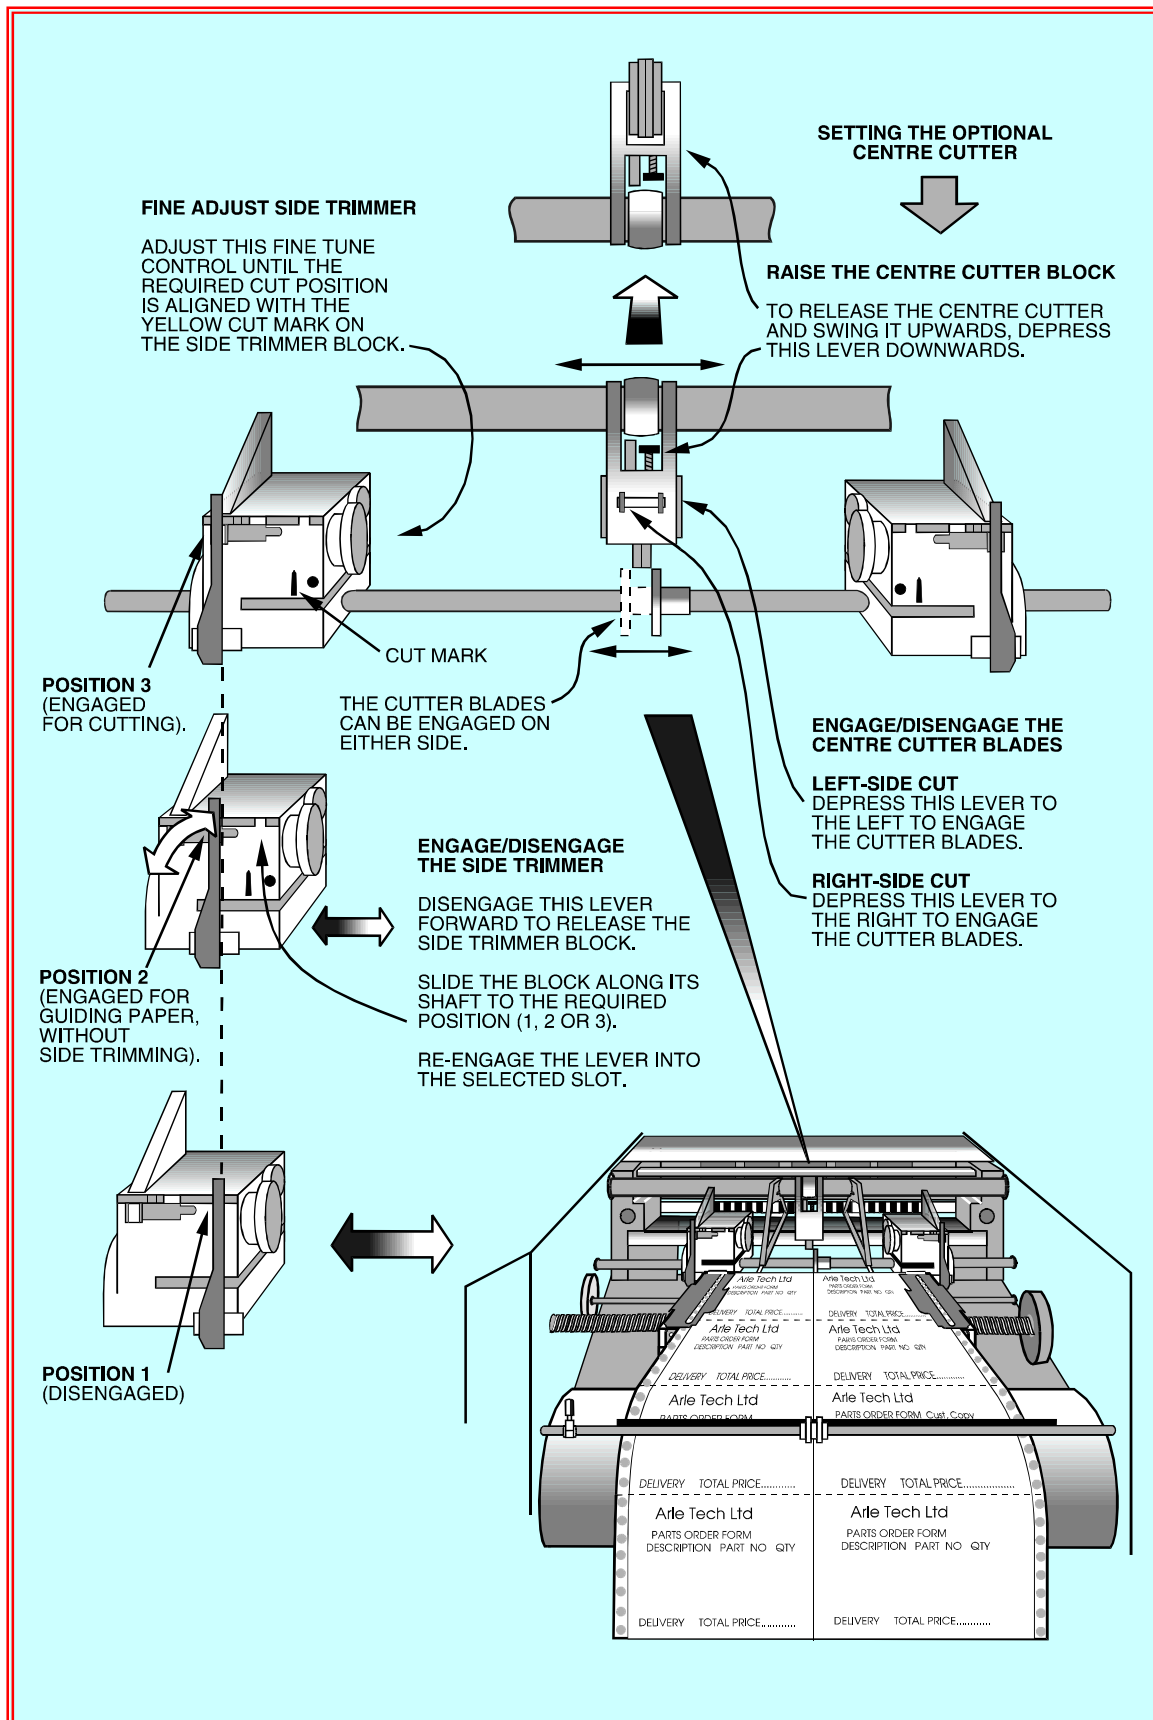

Fig 4.9 Setting the Side Trimmers & (Optional) Centre Cutter
- If side trimming is required, open the protective cover and slide the side trimmer(s) so that the trimmer block(s) engage with the tractor unit(s), (position 3 as shown on Fig 4.9). Align the yellow cut mark with the side carrier cut line.
- If a centre cut is required, engage the centre cutter and adjust its position to align with the centre cut mark on the paper web, as shown in Fig 4.9. Close the protective cover. Press the START pushbutton to extinguish the STOP pushbutton.
- As an option, it is possible to set the side trimmers to position 2 as shown on Fig 4.9, so that they are acting as paper guides only, not trimming the sides. Release the centre cutter as shown on Fig 4.9, so that it cannot cut.